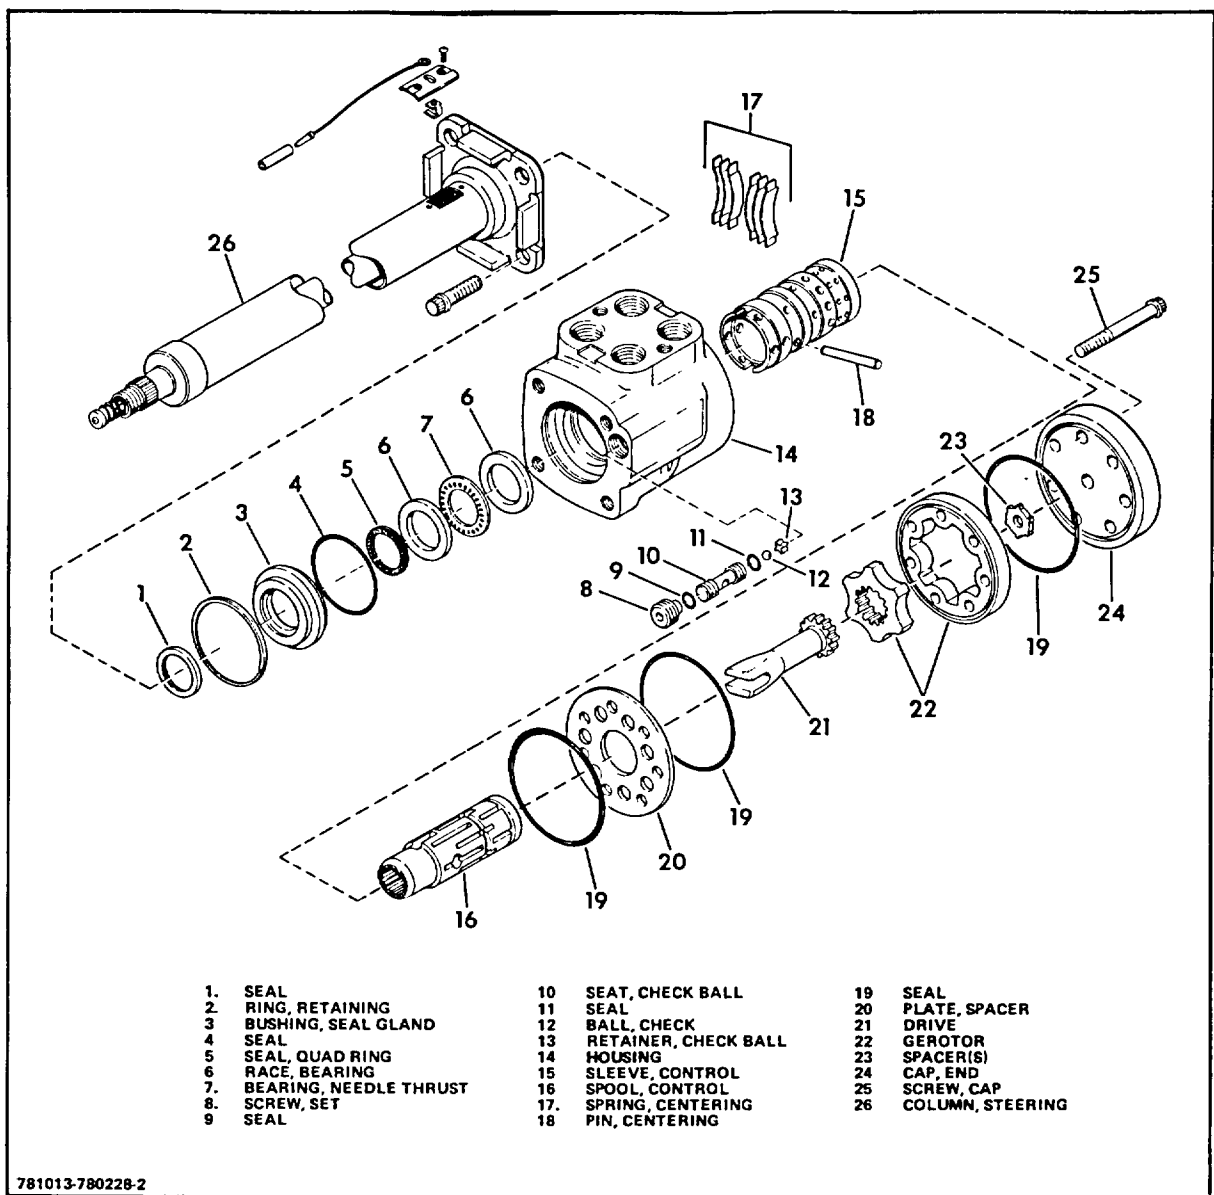
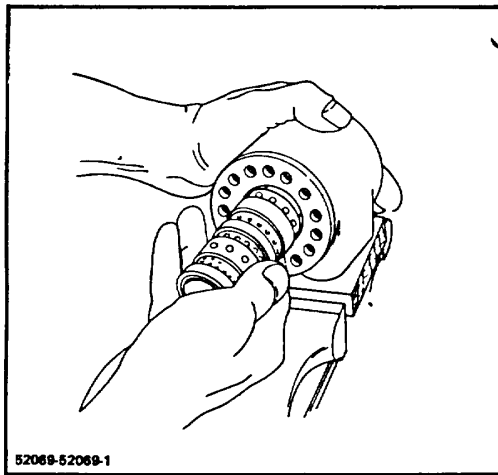

Figure 3-1. Power Steer Control Assembly
Figure 3-2. Removing Spool-Sleeve Assembly
2. Remove the 12-point capscrews securing the steering column to the control unit. Remove the steering column (Fig 3-1).
4. Remove the three-section meter end assembly (Items 19 through 24, Fig 3-1) as a unit.
6. Remove the retaining ring (2) and the seal gland bushing (3).
7. Remove the control unit from the vise and place the port face of the housing on a flat surface. Remove the spool and sleeve assembly from the housing (Fig 3-2).
10. Install the rear bearing race (Item 6, Fig 3-1), the needle bearing (7), and the front race (6).
11. Install new seals (5, 4, 1) on the seal gland bushing (3). Install the seal gland bushing over the end of the spool.
12. Install the retaining ring (2) in the control unit housing.
14. Install the seal (19) in the housing and position the spacer plate (20) so that the bolt holes in the plate are aligned with the tapped holes in the housing.
15. Install the seal (19) on the gerotor (22) and position the gerotor so that the bolt holes are aligned with the tapped holes in the housing.